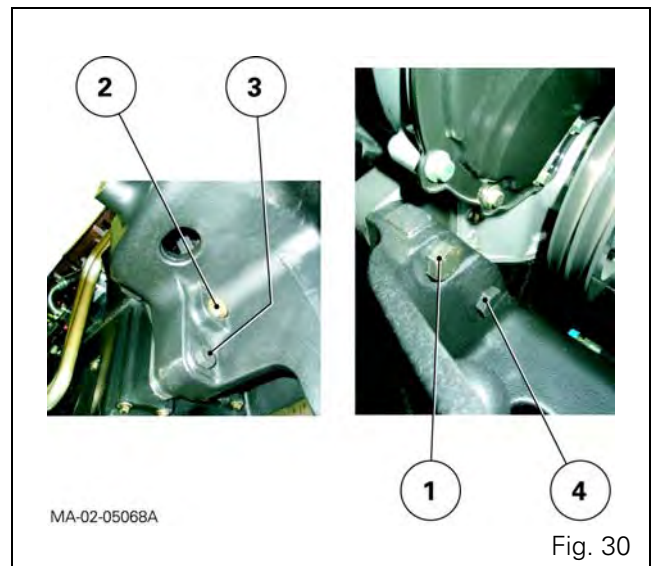

Fig. 30
56. Slightly loosen the screws (4) and bolts (1) (Fig. 30).
58. Fit screws (2) and (3) (Fig. 30).
59. Tighten bolts and all screws of the front frame to a torque of 240 - 320 Nm in opposition and in the following order: (2) (3) (4) (1) (Fig. 30).